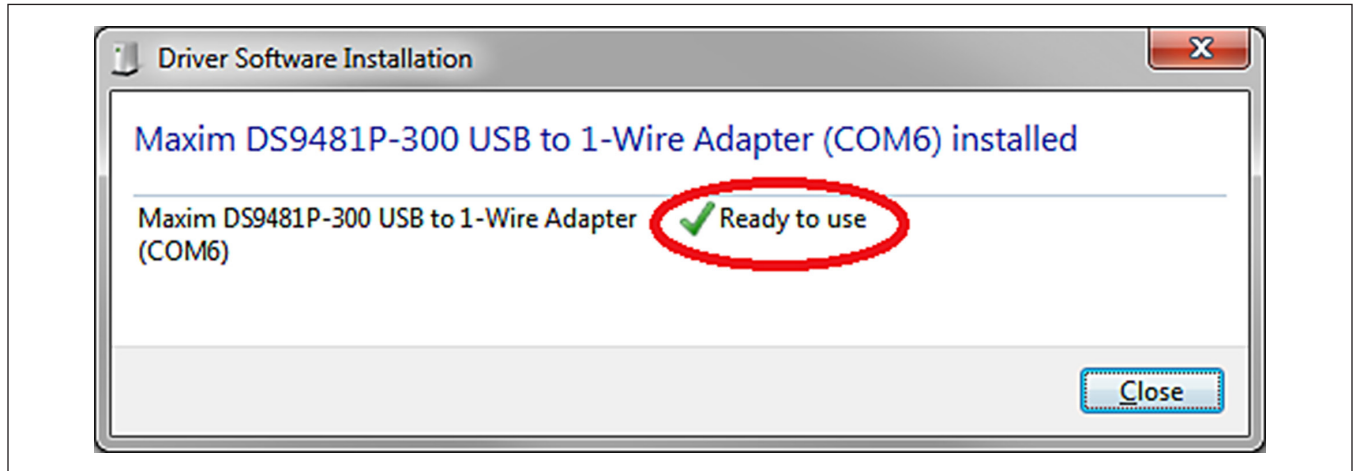

Figure 11. Driver Software Installation Notice
- 10) The device driver now automatically installs and a pop-up window appears when complete (Figure 11).